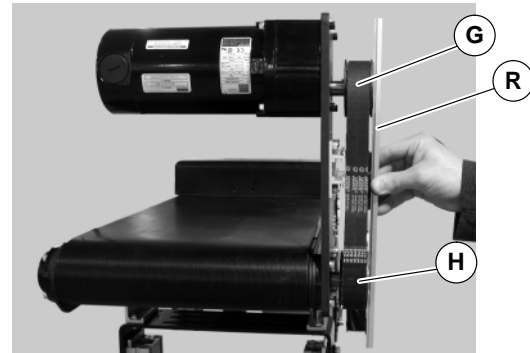
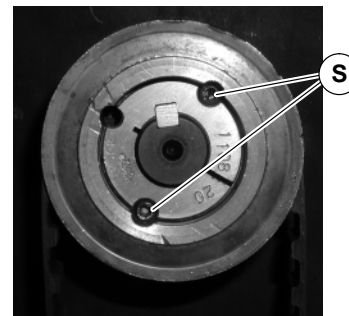

Figure 6
Figure 7
- Wrap timing belt (F) around driven pulley (H) and drive pulley (G). Install driven pulley (H) onto conveyor shaft.
- Using a straight edge (R of Figure 6), align driven pulley (H) with drive pulley (G). Tighten driven pulley taper-lock screws (S of Figure 7).
NOTE: If timing belt does not slide over pulley flange, loosen driven pulley taper-lock screws (S of Figure 7 & 11) and remove pulley with belt (F). For re-installation, see steps 5 and 6 on page 6.